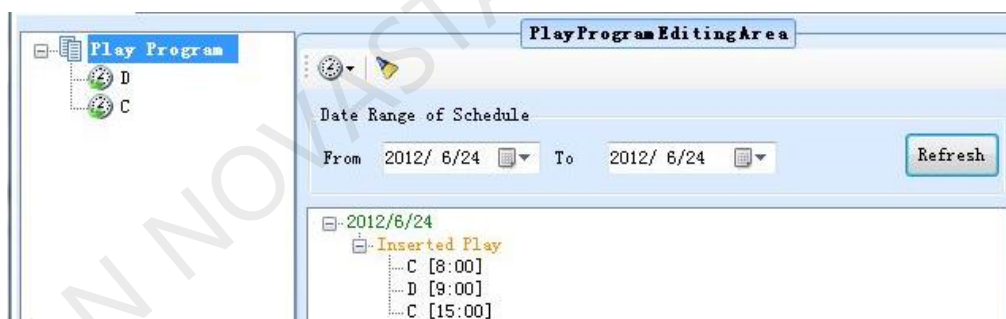

Fig. 10-13 C has higher priority than D
- Otherwise, if C is at the back of D in the play program, then C has the priority to be played at the same time point(15:00). The dispatching results will be shown as Fig. 10-13(In June 24, 2012).